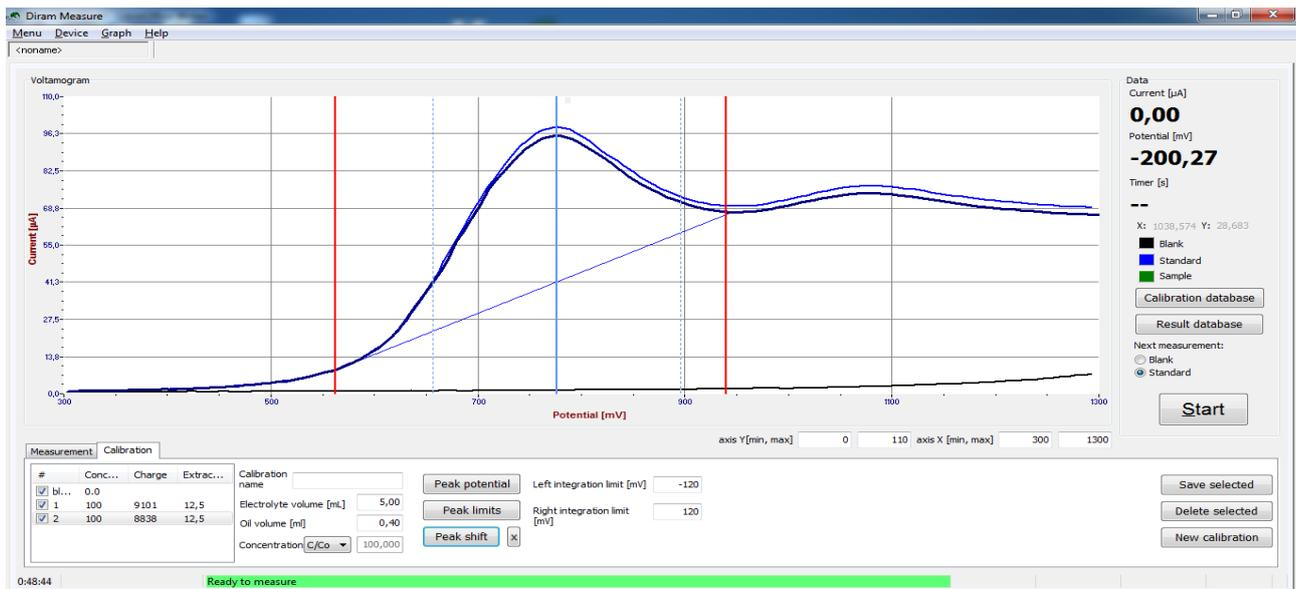

Figure 9: Peak adjustment
- Adjust the potential of the peak by pressing *Potential peak* button and by clicking on the peak maximum so that both maxima are on the same potential (Fig. 9).